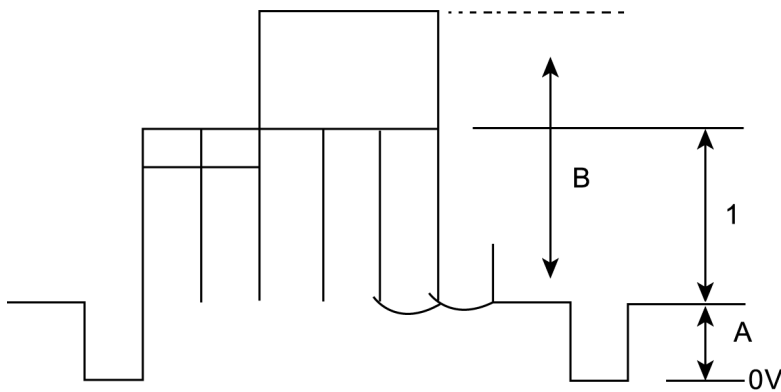

Fig. 4
5. Set (A) to $0.3 \pm 0.1V$ by BRT (CHK2) at measurement point TPL 2 Fig. 4.
1. Connect oscilloscope probe to TPL 7 (G OUT) with 10k Ω series resistor and adjust Contrast so that (B) as in Fig. 4 is $1.85 \pm 0.2V$.
2. Adjust "Sub Colour" so that waveform as in Fig. 4 (1) $2.5 \pm 0.1V$.